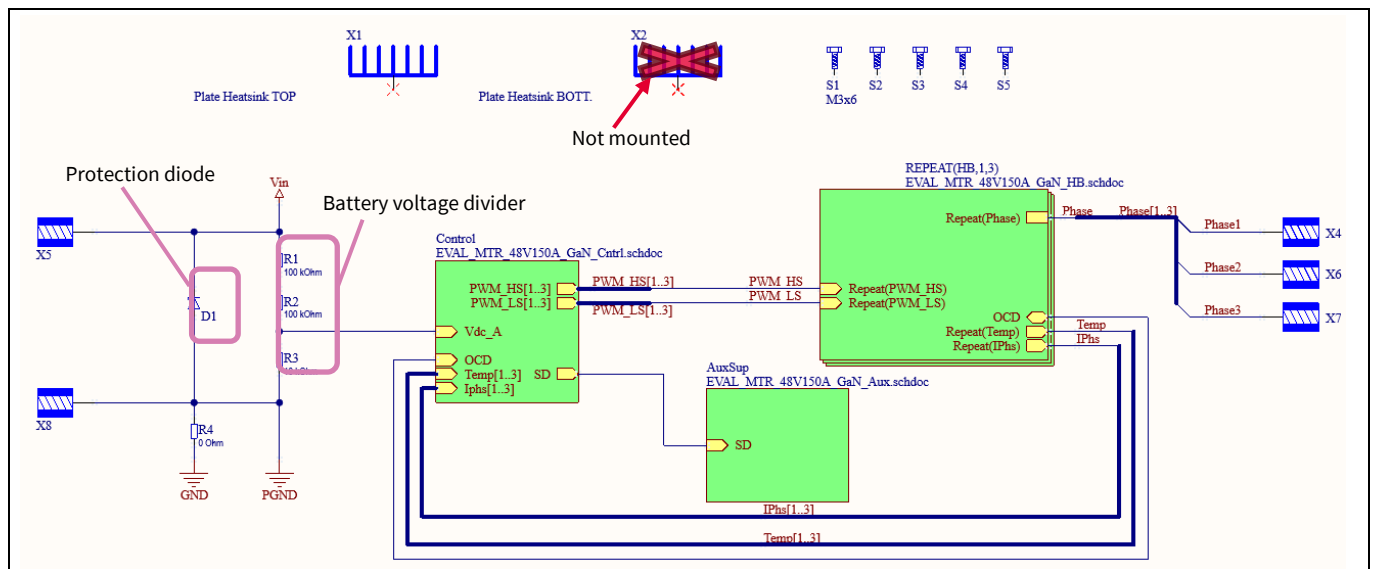

Figure 7 System-level overview of the motor drive schematic
A schematic overview of the motor drive is shown in Figure 7. The schematic can be divided into three core components:
- **Half-bridge (HB):** This block has the CoolGaN™ half-bridge with current sensing and the DC-link/HF capacitors (shown once in the schematic in Figure 7, but repeated thrice as identical phases 1, 2, and 3)